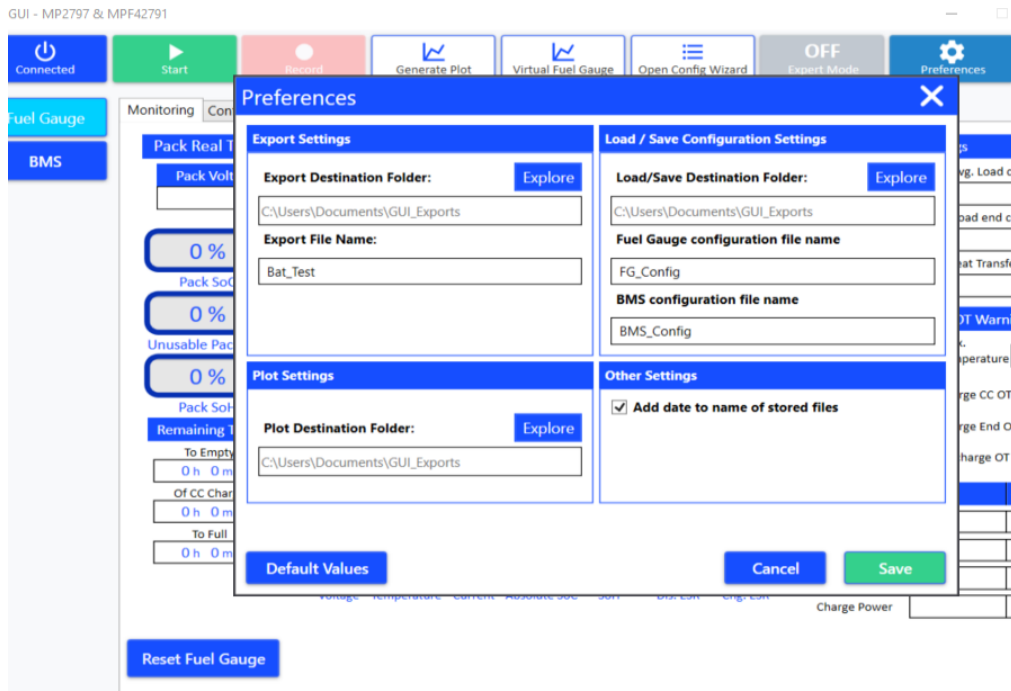

Figure 35: Preferences Window
2. Select the directories for the exports (“.csv” monitoring exports, configuration exports, or plots). The export names provide the option to add the date and time to the export files (see Figure 35).